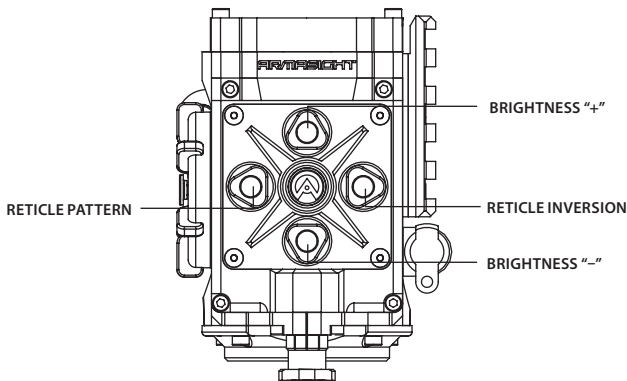

FIGURE 3-16. SETTING BUTTONS
8. Using the buttons on the control panel (Figure 3-16), configure the Drone PRO to adapt it to your situation.